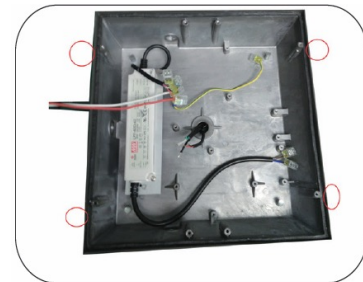

Figure 3.
3. Fasten the fixtures back plate to a solid surface capable of supporting the fixture. Use customer supplied hardware that meets or exceeds requirements. **See figure 3**